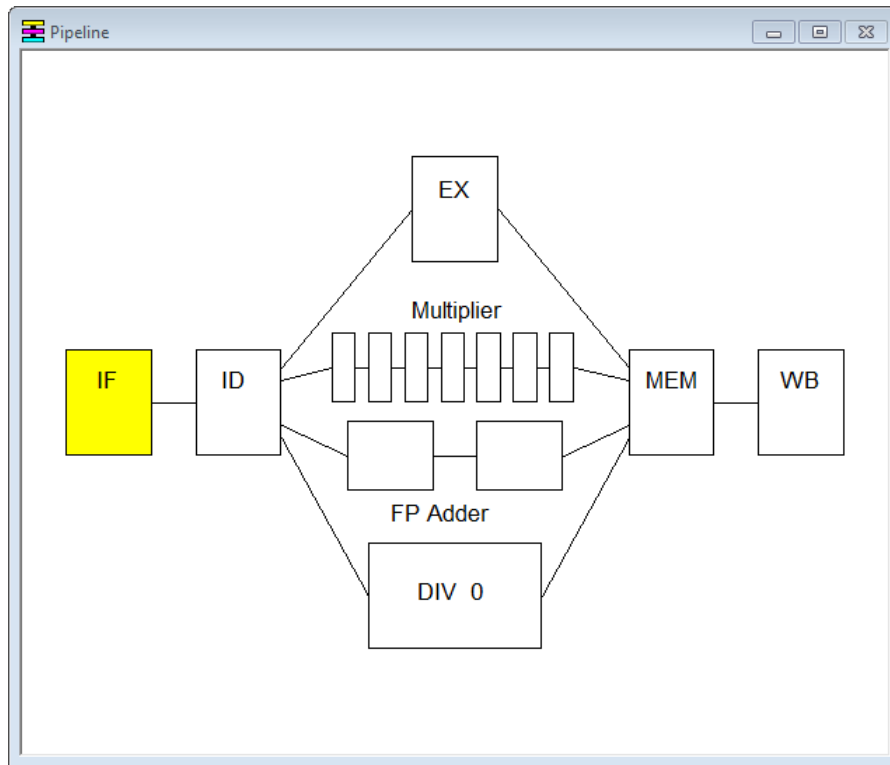

Figure 2.4: WinMips64 pipeline window
- Pipeline (figure 2.4): Shows the evolution of the pipeline in the execution process. The functional units of the datapath are shown.